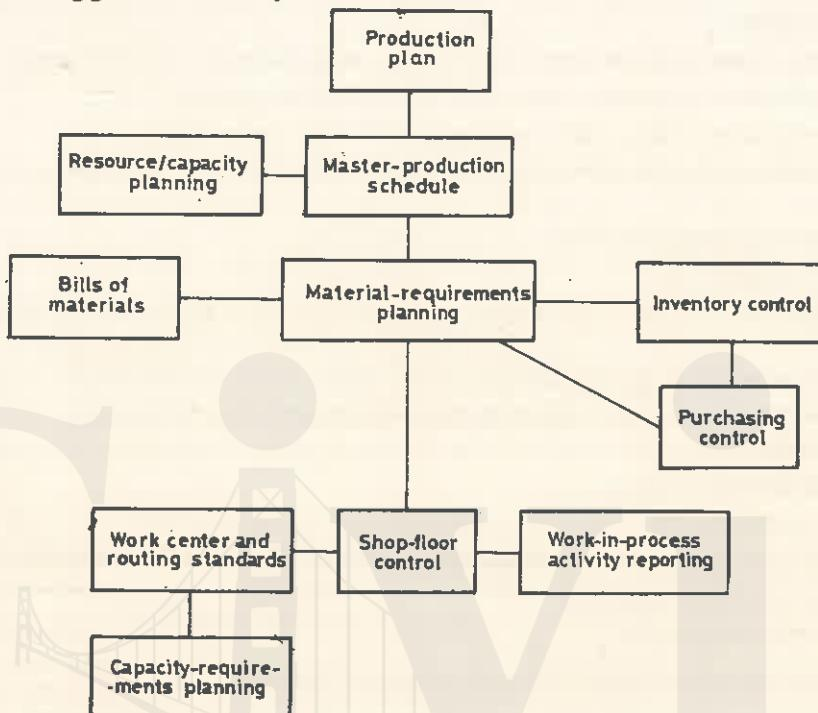

Fig. 24.12. The structure of MRPS.
- (1) Reduction in inventory.
- (2) Improved customer service—late orders are reduced as much as 90%.
- (3) Quicker response to changes in demand.
- (4) Better machine utilization.
- (5) Greater productivity.
- Fig 24.12 shows one such system—MRPS: *Manufacturing Resource Planning System* developed by CINCOM systems, Inc. MRPS includes the vertical dimension of production planning, master production scheduling, MRP and shop floor control. The system also expands horizontally to include inventory control, purchasing and other planning considerations.